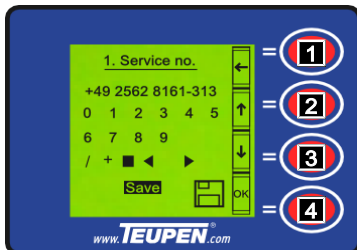

Fig. 93
4. Use the [function keys] (Fig.93/2 and 3) to move the cursor to save.
5. Use the [function key] (Fig.93/4) to confirm the settings.
6. Use the [function key] (Fig.93/1) to return to the settings menu.